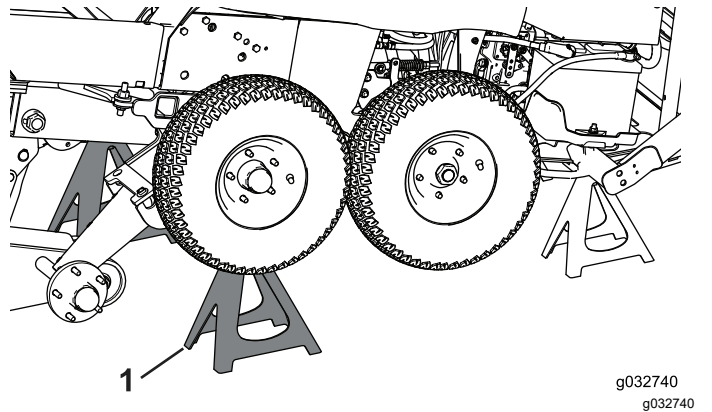

Figure 89
5. Use jack stands to support the winter frame (Figure 89).
6. Remove the front wheels (Figure 89).